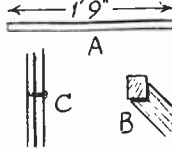

Fig. 2—Stretcher detail
For the stretchers, which keep the kite in shape and the material taut, cut four pieces of  $\frac{1}{2}$ in. wood, to  $\frac{3}{4}$ in. width and 1ft. 9ins. long, as at (A) in Fig. 2. Any thin tough wood will serve for making these, the tougher the better, as they have to stand some strain.